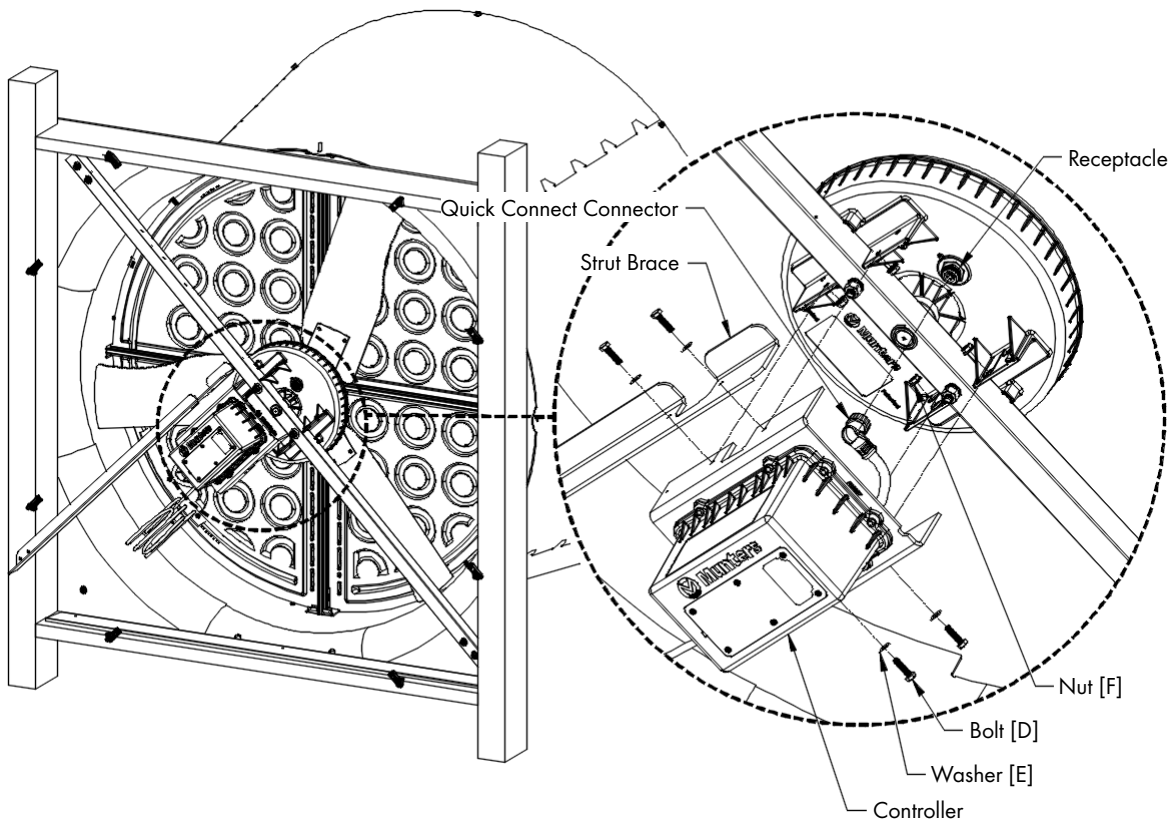

Figure 8
Find Strut Brace and remove Controller from foam packaging. Plug the Quick Connect Connector into Motor and position Controller and Strut Brace over Strut, with bottom of box toward bottom of fan. Secure Controller and Strut Brace to Motor using (4) Bolts [D], Washers [E] and Nuts [F]. See Figure 8.